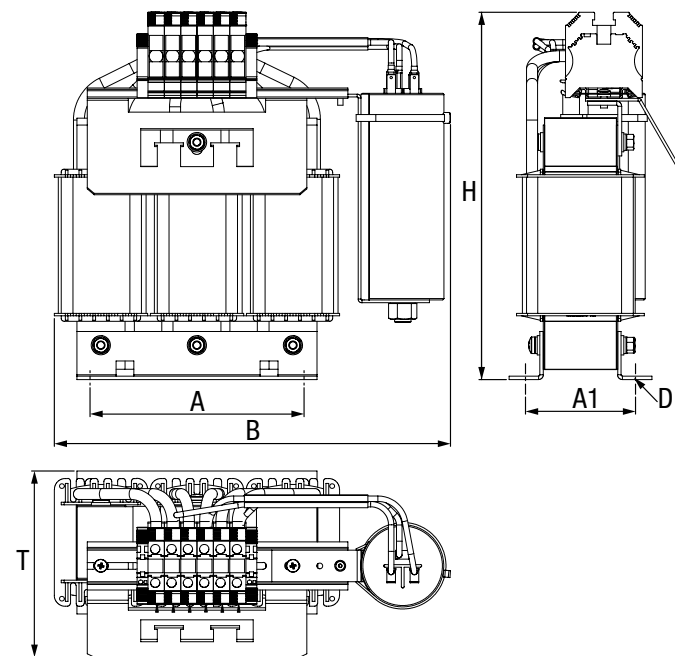
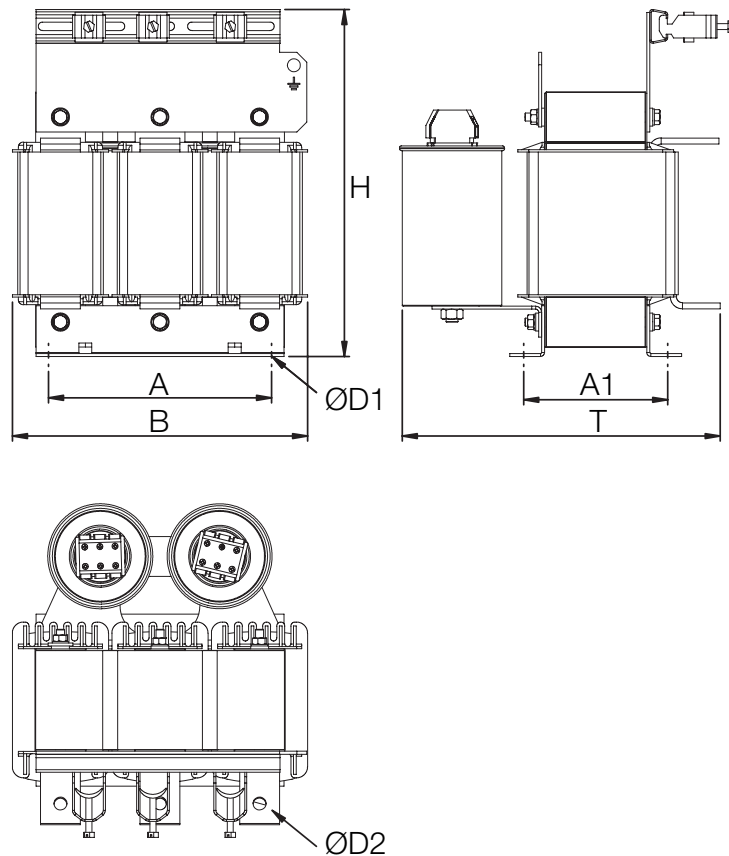

Figure 3.18 Dimensional drawing, input choke, based on Size 5 as an example
Figure 3.19 Dimensional drawing, input choke, based on Size 7 as an example (G396-250)
1. Arrange the components such that adequate air circulation is ensured for heat dissipation. As the film capacitor has a viscous filling, the input choke must be installed with the film capacitor upright. Pay attention to the bending radius of the connection cables. For dimensional drawings/hole spacing see Figure 3.18, Figure 3.19 and Table 3.4.